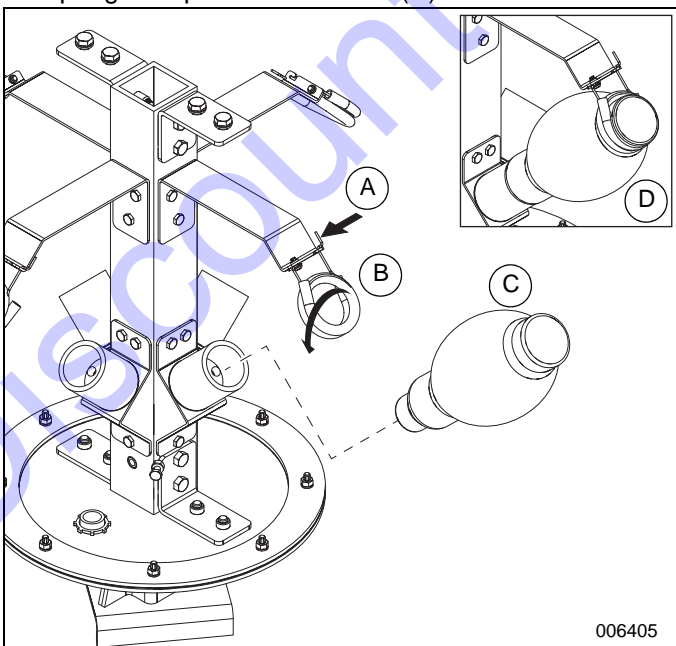

Figure 9. Bulb Installation
- See **Figure 9**. Install bulbs, as follows.
4. See Figure 9. Install bulbs, as follows.